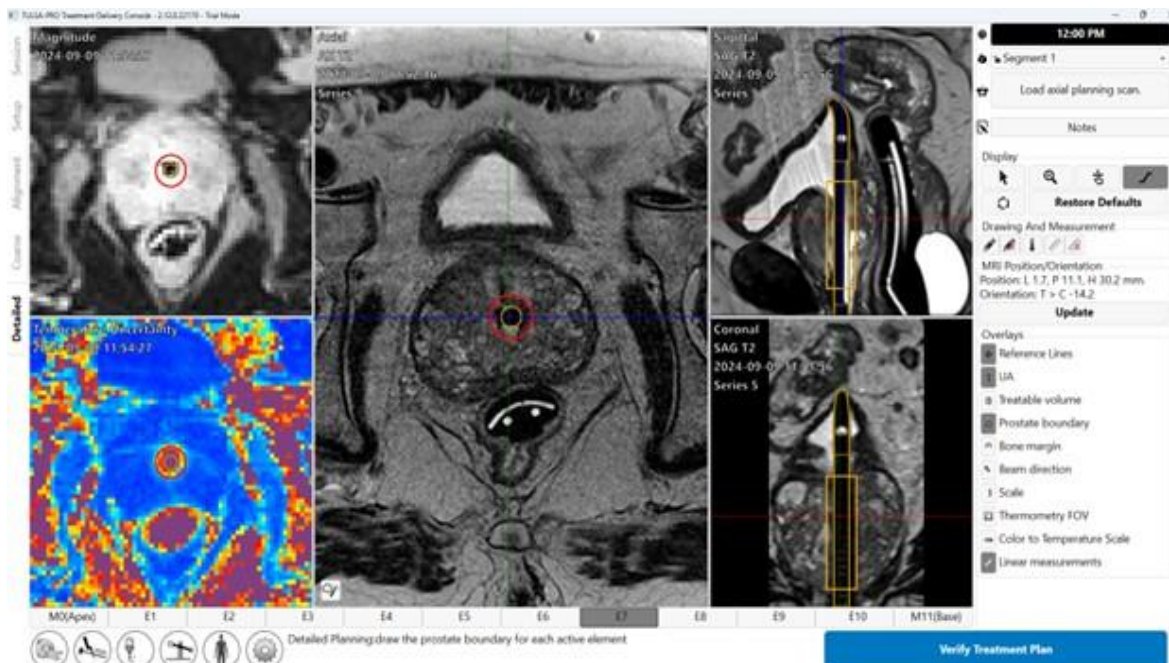

Figure 39: Detailed Planning workspace with Thermometry Magnitude and Temperature Uncertainty
5. Radiologist: As the thermometry scans are received, the **Magnitude** and **Temperature Uncertainty** views will be displayed automatically. Use **Load ... Scan** to load the AX T2 or AX DWI images. Once the thermometry scans are loaded, the Magnitude and Temperature Uncertainty views will be displayed to facilitate treatment planning (*Figure 39*).